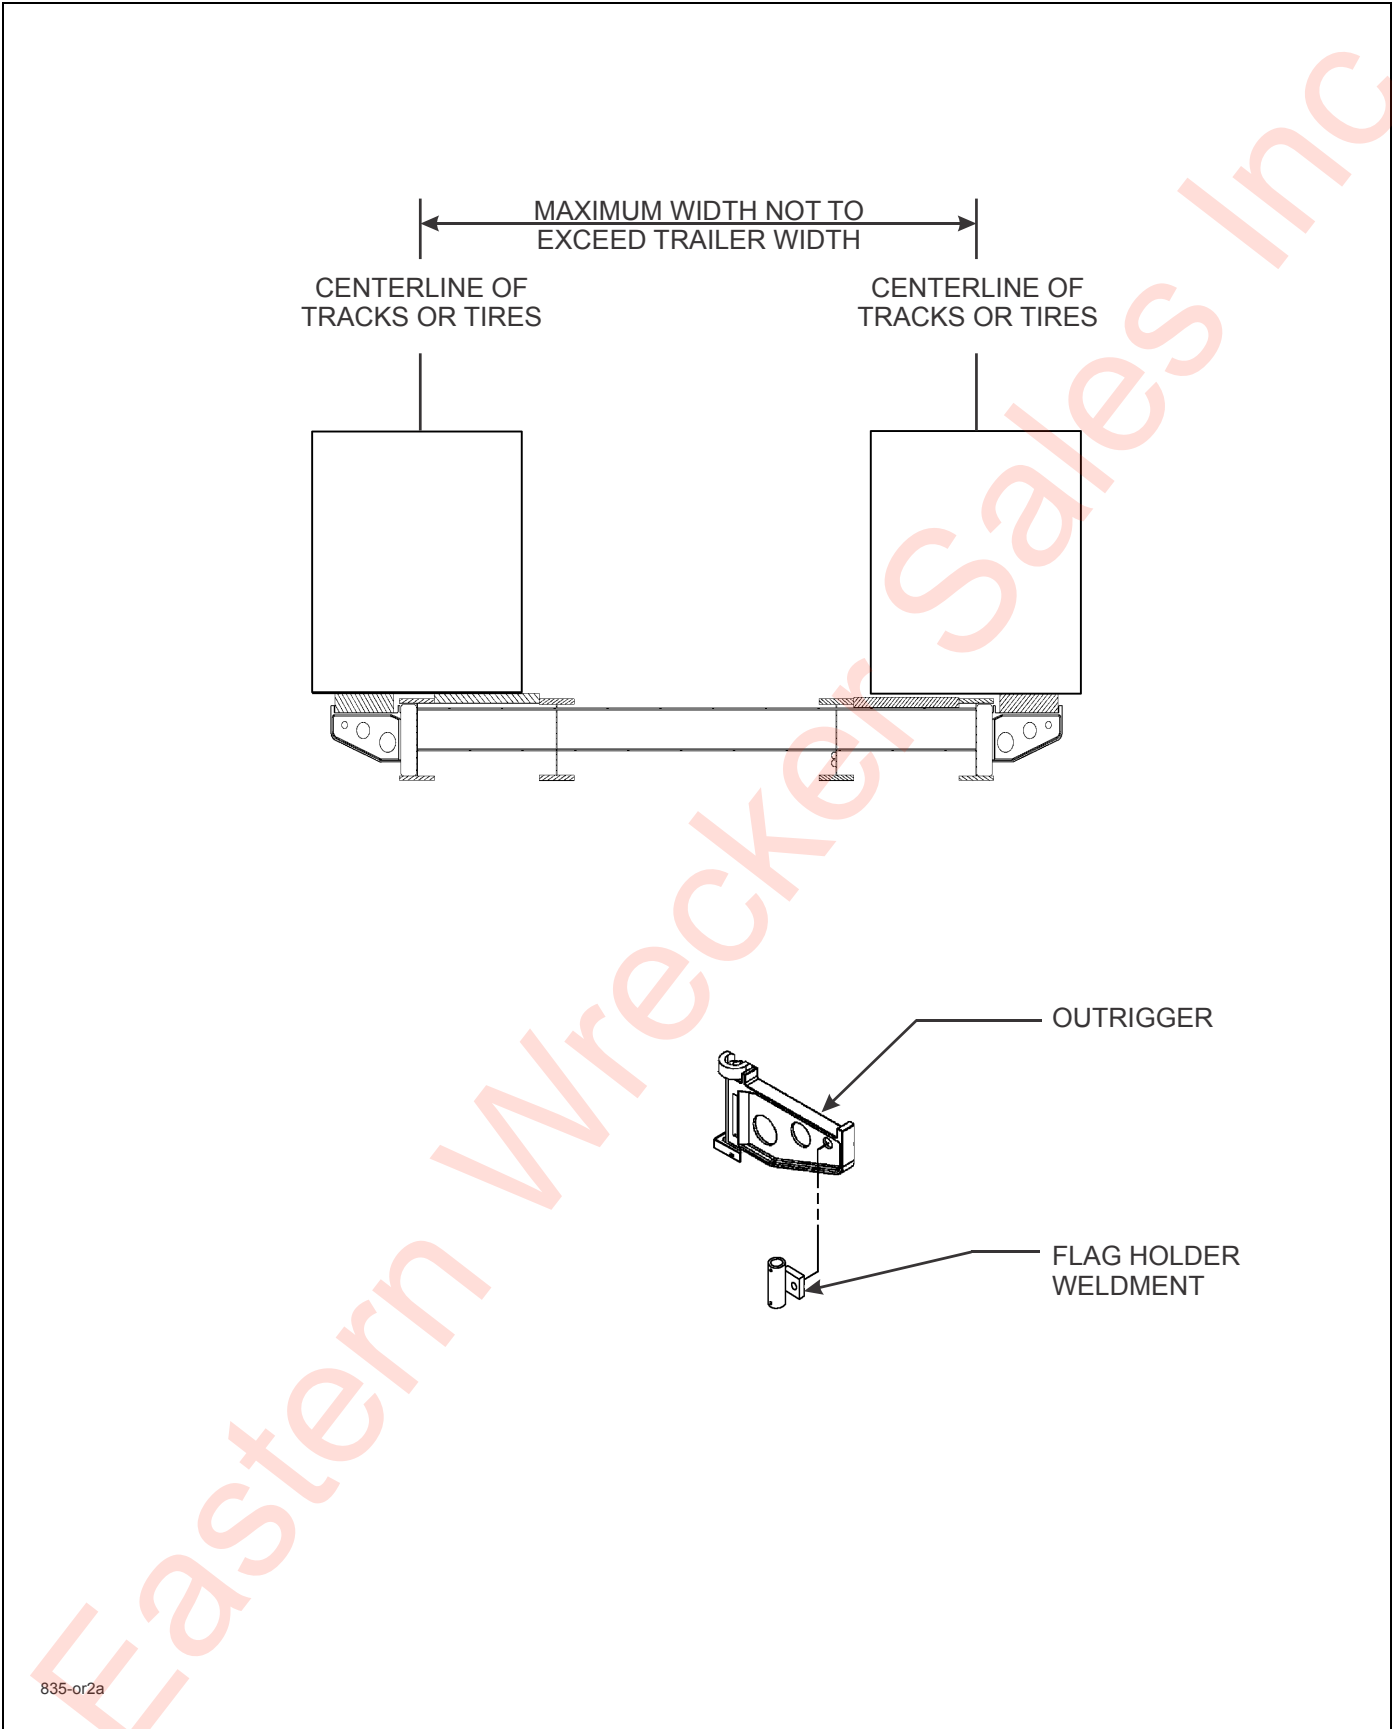

Figure 3-5: Swingout Outrigger Platform Extension
2. Lift up and rotate swing-out outriggers outward (See **Figure 3-5.**)